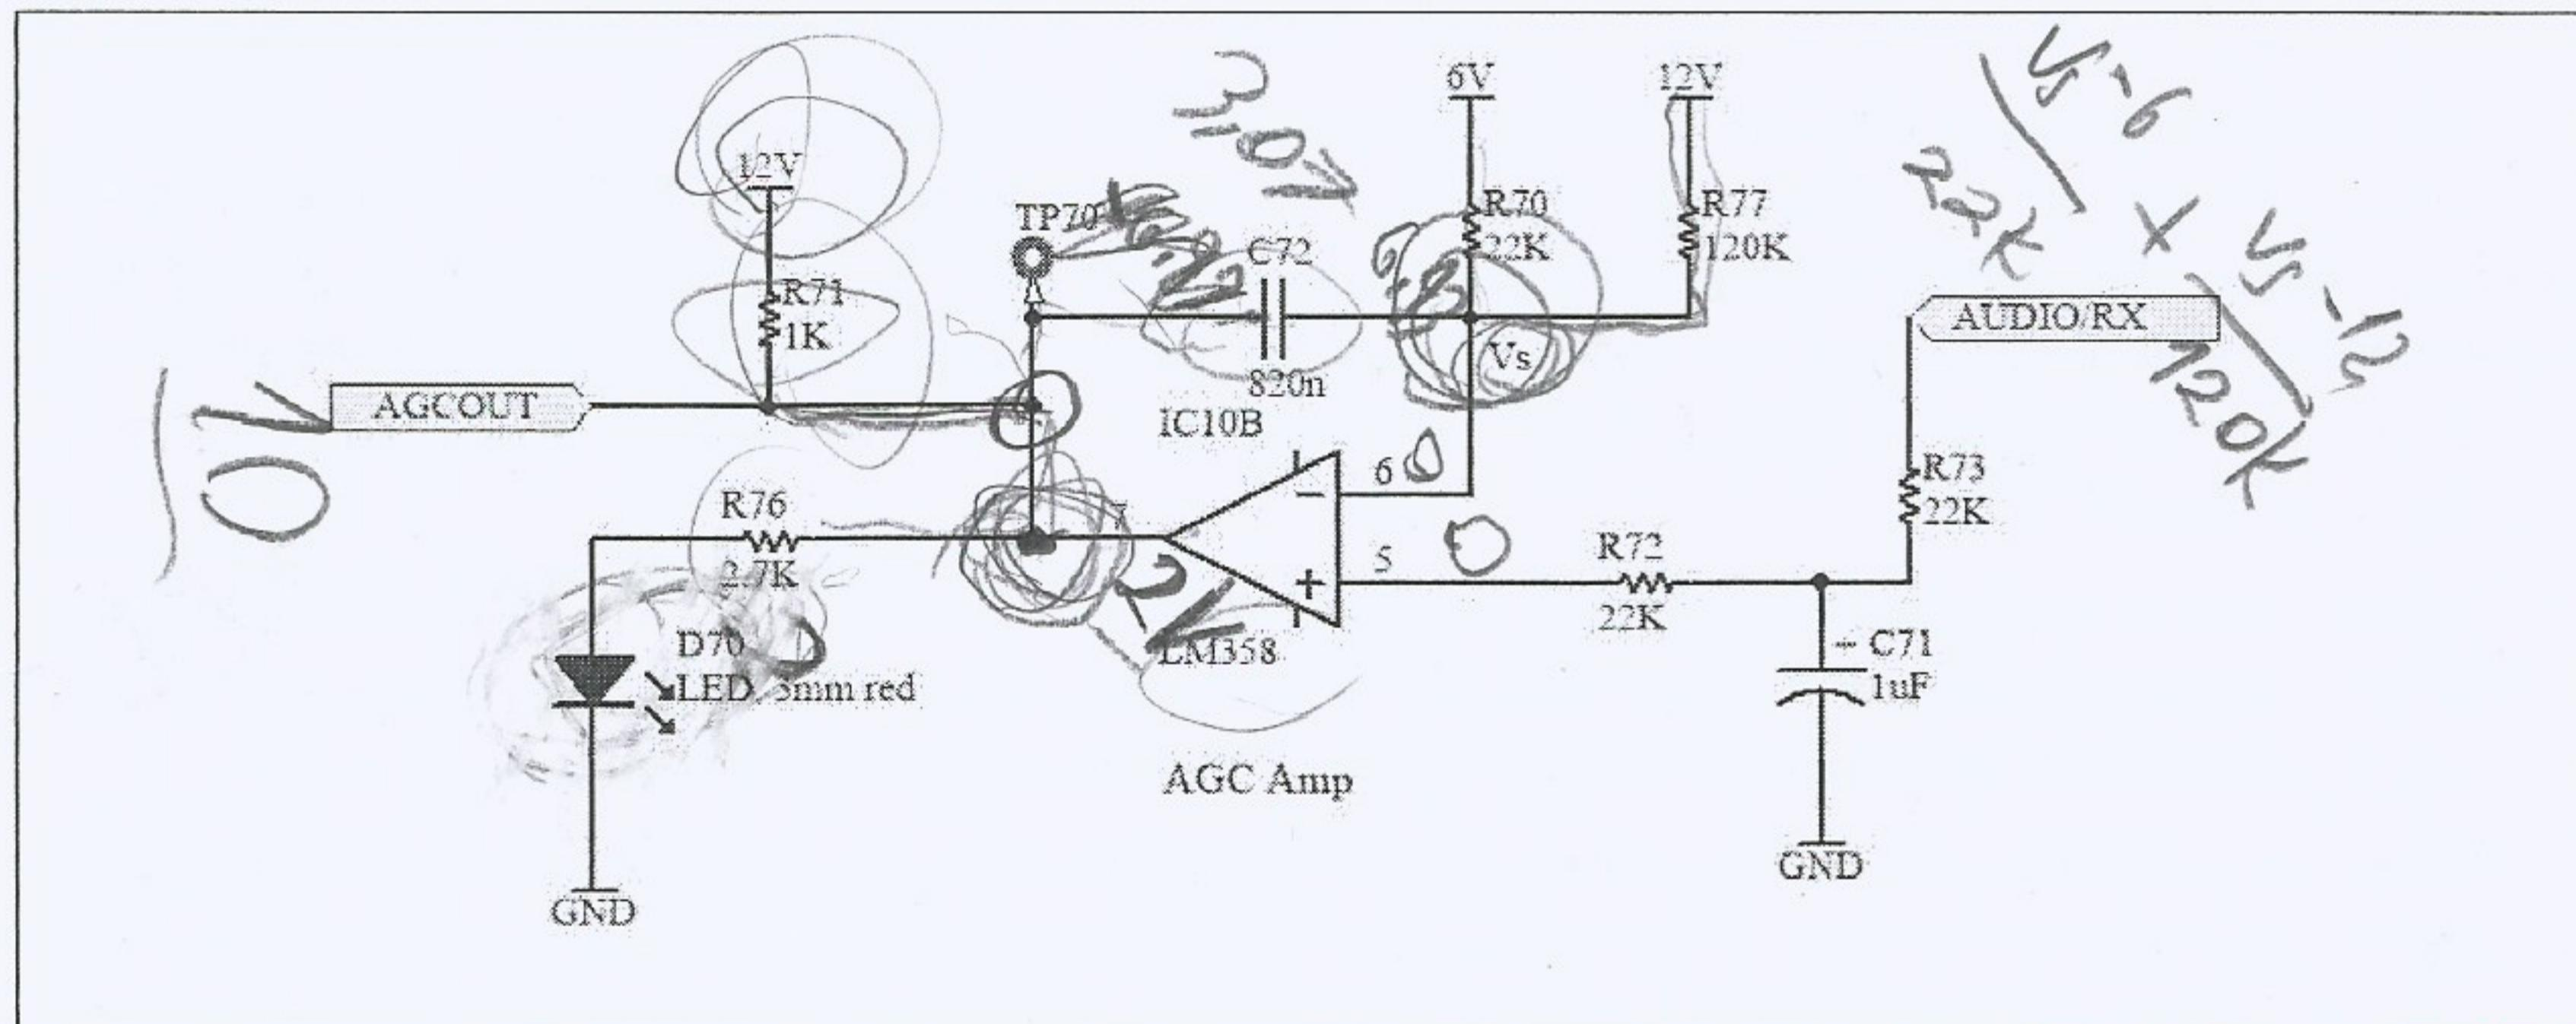
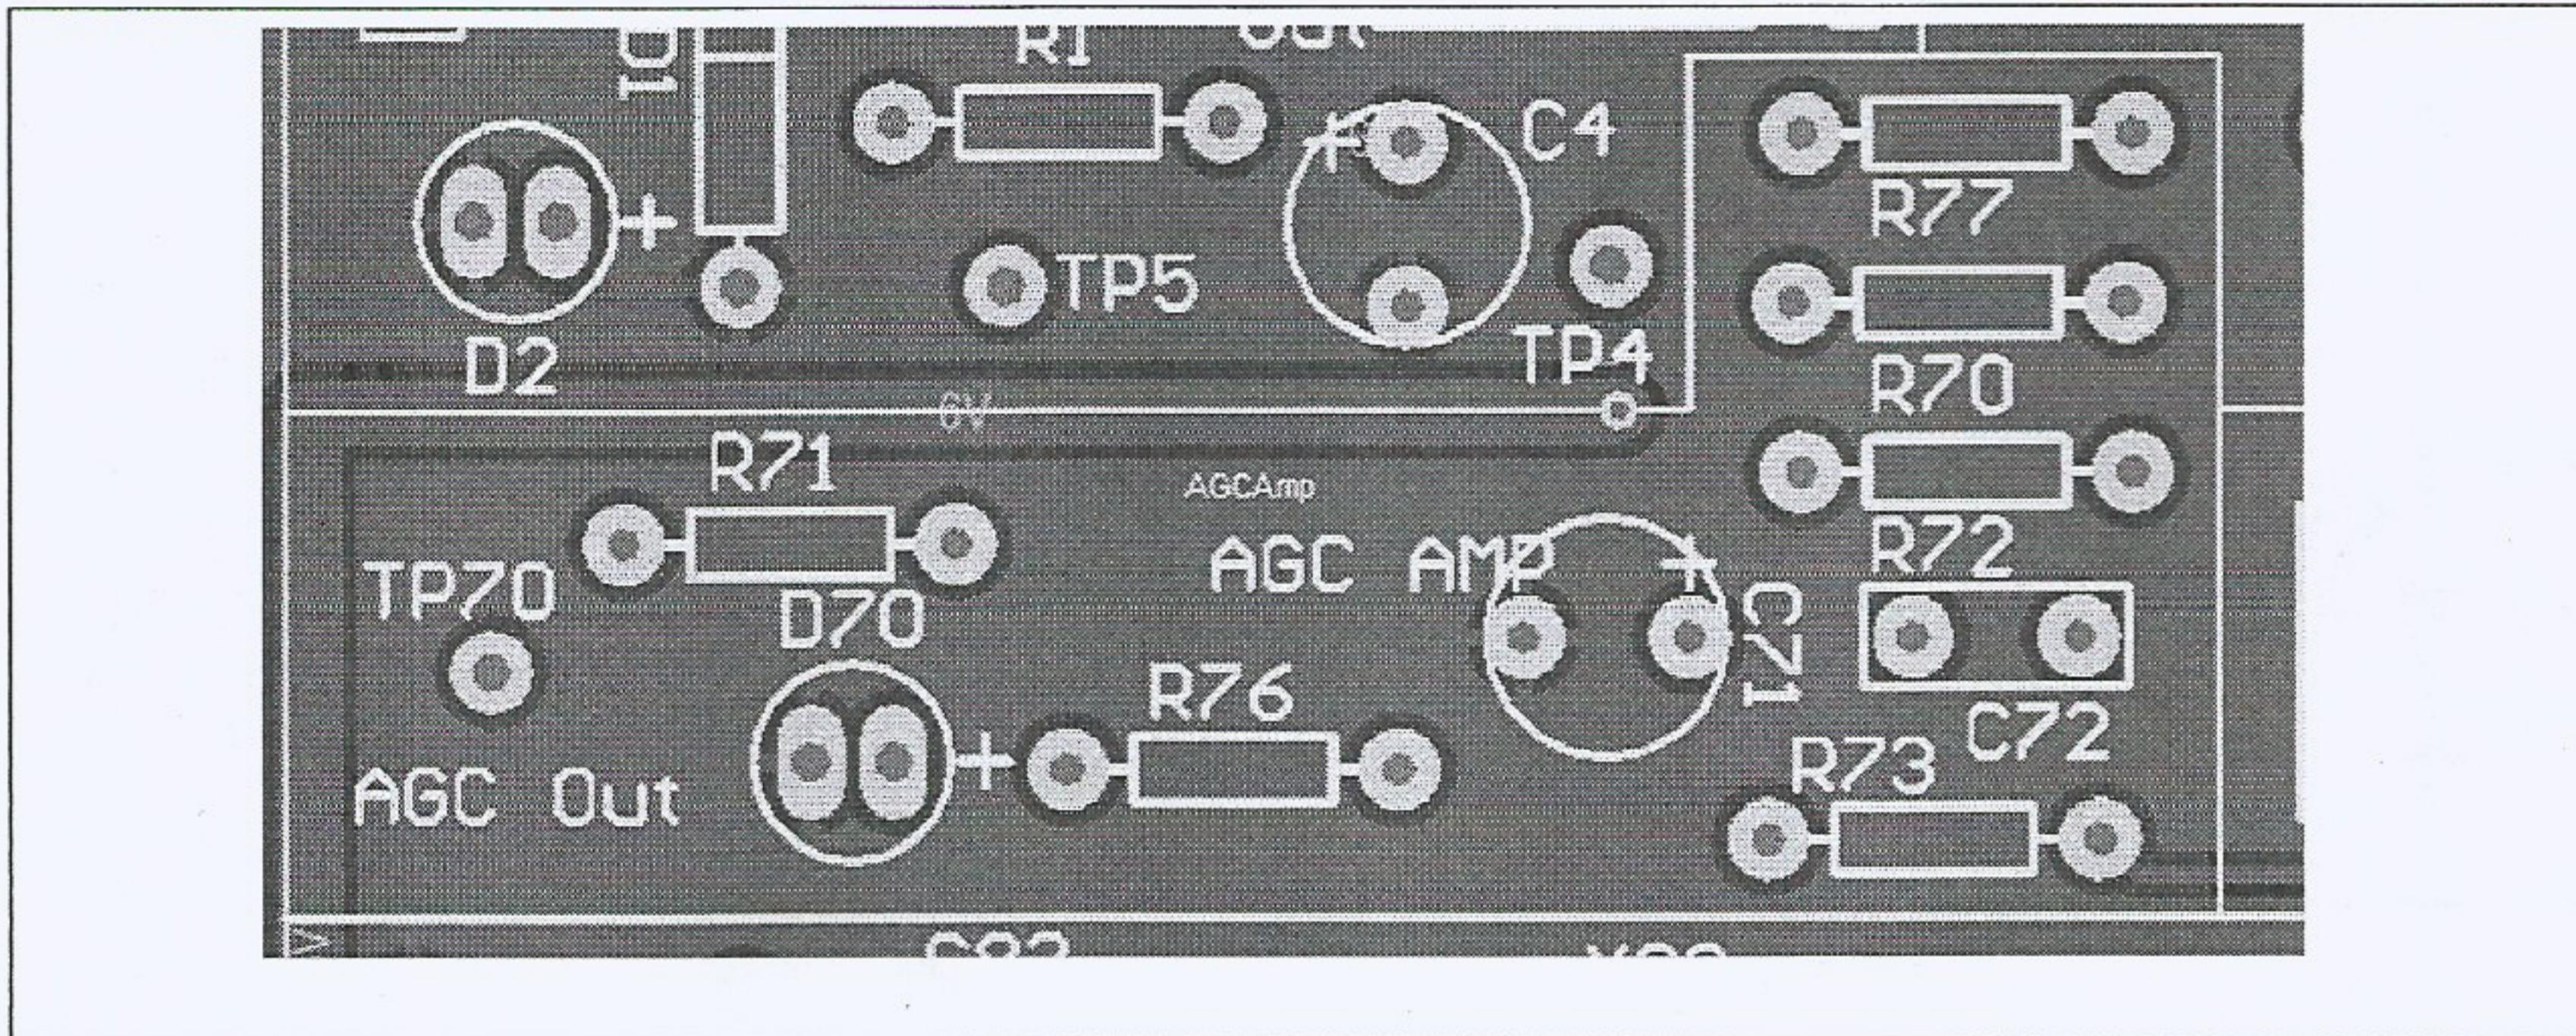

Figure 4: Automatic gain control circuit.
Figure 6: Correct PCB annotations for AGC circuit.
2. The automatic gain control (AGC) circuit of TRC-11 is given in Fig. 4.
1. Now, we are ready to incorporate the automatic gain control (AGC) circuitry to prevent saturation of the IF amplifiers. Refer to Fig. 4. Note that the PCB annotations of C72 and R72 are inadvertently swapped. Correct PCB annotations are shown in Fig. 6.
2. The automatic gain control (AGC) circuit of TRC-11 is given in Fig. 4. Place R70, R71, R72 (in its corrected place), R73, R75, R77, and D71. Watch the direction of the PIN diode. Solder them. Cut the leads on the back side.